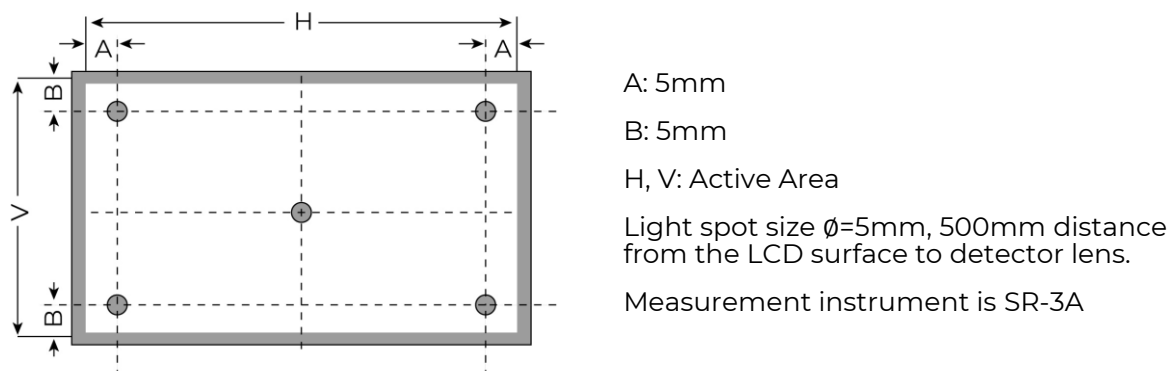

Figure 3. Measuring method for Contrast ratio, surface luminance, Luminance uniformity, CIE (x, y) chromaticity
**Note 6.** For TFT module the contrast ratio is greater than 10. The angles are determined for the horizontal or x axis and the vertical or y axis with respect to the z axis which is normal to LCD surface. For more information see Figure 3.